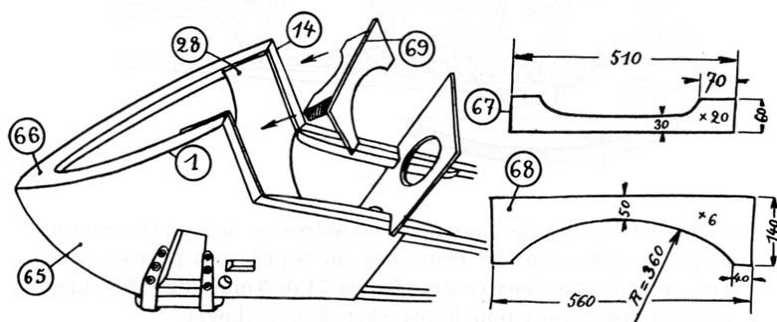

Figure 3.12: Fastening the “lyre” in place
Put the two branches of the lyre together between the plywood sides (1) and the plywood panels (28) (fig. 3.12). Nail so that the two sides (65) meet slightly past point (66). Nail the plywood all along the branches, about every centimeter.